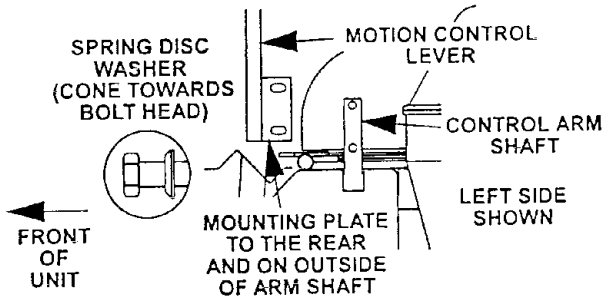

FIG. 1
- 3.5.1 Loosen and remove the two (2) 3/8" x 1" bolts and spring disc washers which attach the motion control levers to the control arm shafts for shipping and the two (2) 3/8" x 1" bolts and spring disc washers which are screwed into the control arm shafts.
- a) Install the left motion control lever onto the control arm shaft (See Fig 1) on the left side of the console. Place the lever (with the mounting plate towards the rear) on the outside of the control arm shaft and secure with the bolts and washers. Position the lever so the bolts are in the center of the slots on the lever mounting plate and tighten until snug.